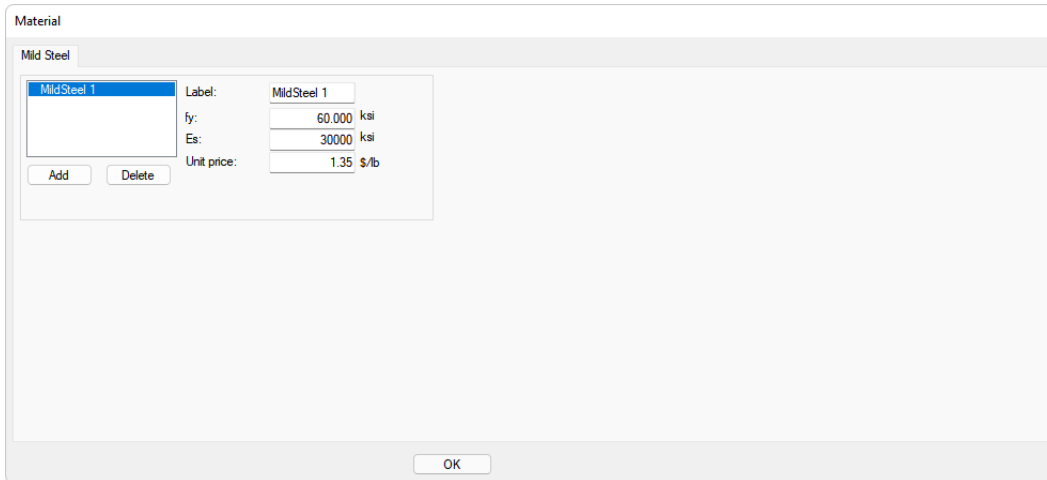

FIGURE 2-8
- Go to *Criteria->Material Properties* and click on the **Rebar**  icon. This will open the *Material* window from **FIGURE 2-8**.